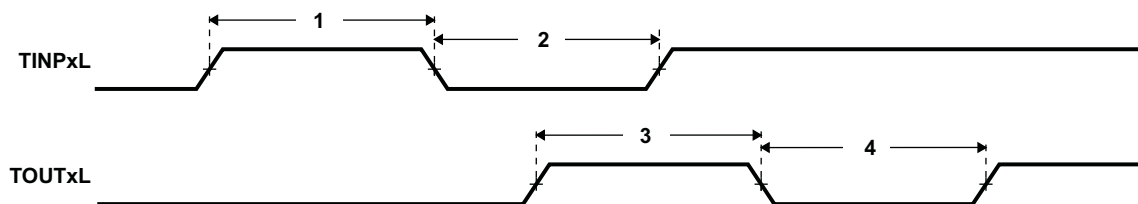

**Figure 6-45. Timer Timing**
**Table 6-85. Timing Requirements for Timer Input(1)(2)(3) (see Figure 6-45)**
- (1) P = MXI/CLKIN cycle time in ns. For example, when MXI/CLKIN frequency is 27 MHz, use  $P = 37.037$  ns.
(2) The TIMERCTL.TINP0SEL field in the System Module determines if the TINP0L input directly goes to Timer 0 (TIMERCTL.TINP0SEL=0), or if the TINP0L input is first divided down by 6 before going to Timer 0 (TIMERCTL.TINP0SEL=1).
(3) TINP1L input goes directly to Timer 1.
**Table 6-86. Switching Characteristics Over Recommended Operating Conditions for Timer Output(1) (see Figure 6-45)**